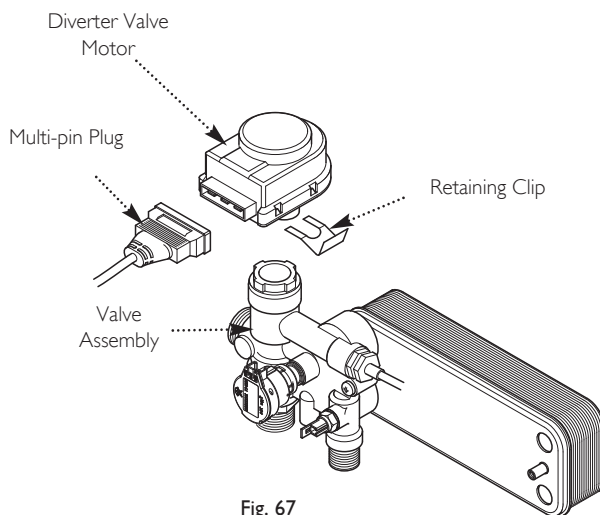

Fig. 67
15.19 Diverter Valve - Motor & Valve Assembly (Fig. 67)